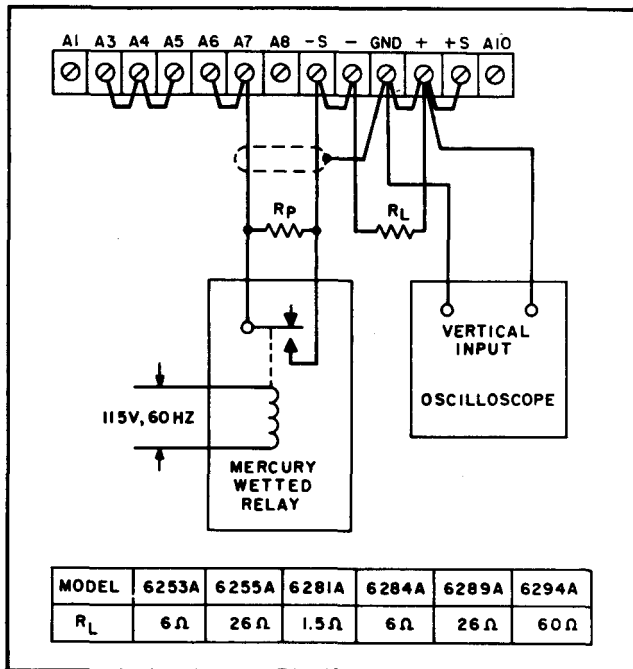

Figure 5-10. CV Programming Speed, Test Setup
5-32 Programming Speed. This measurement is made by monitoring the output voltage with an oscilloscope while rapidly changing the remote programming resistance. For up-programming, the remote resistance is varied from zero ohms to the value that will produce maximum output voltage; and for down-programming, the remote resistance is varied from the value that will produce maximum output voltage to zero ohms. To check the up-programming speed, make the connections indicated in Figure 5-10; for down-programming, simply remove  $R_L$ .
1. Restrap the rear barrier strip as indicated in Figure 5-10. Note that the jumper between +S and A10 is removed. This disconnects the output capacitor C to increase the programming speed. A minimum amount of output capacitance (C is permanently wired to the output and should not be removed, because the supply could oscillate under certain load conditions. The programming speed increases by a factor of from 10 to 100 when the output capacitor C is removed.
2. Connect the relay, oscilloscope, and programming resistor  $R_p$  as illustrated in Figure 5-10. Select the value of the programming resistor that